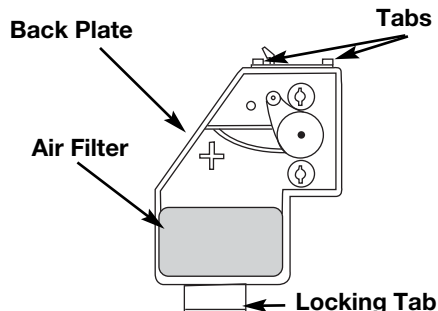

Fig. 27
7. Reinstall the air filter cover. Position the slots on the top of the air filter cover onto the tabs at the top of the back plate (Fig. 27).